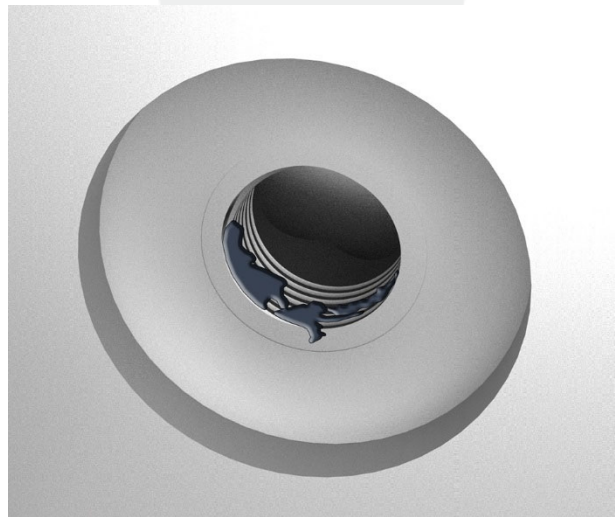

Figure 4 (High voltage controller to penthouse cover bolt hole gasket residue)
5. Inspect each of the high voltage controller to penthouse cover bolt holes (x5), and if present, remove any gasket residue (Figure 4).